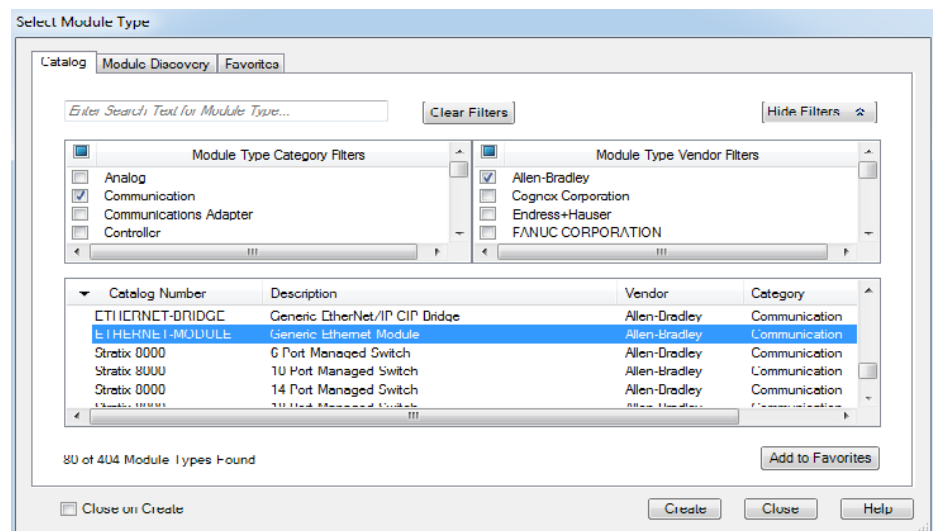

Figure 57: '**Generic Ethernet Module**' selected in list
2. In the **Select Module Type** window, double-click the '**Generic Ethernet Module**' in the list of catalogs (see figure 57).